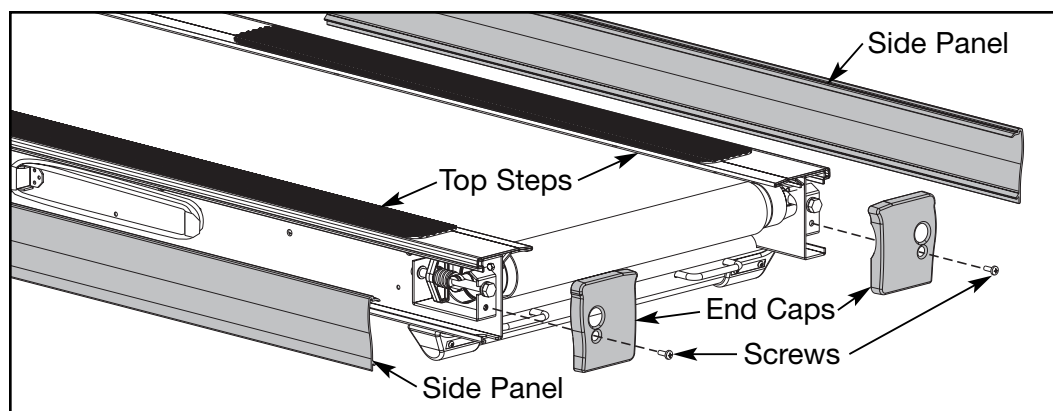

Figure 3
- A. Using a Phillips head screwdriver, remove the screw that holds each end cap in place. See Figure 3.
- A. Pull each side panel out and off the treadmill. See Figure 3.
- B. Grasp each top step and lift it out and off the treadmill. See Figures 3 and 4.
- A.** Using a Phillips head screwdriver, tighten the screw securing each end cap in place. See Figure 3.
- A.** Place each side panel into position slightly under the end cap and use your hand to push all along the bottom edge of the side panel to snap it in place. See Figure 3.